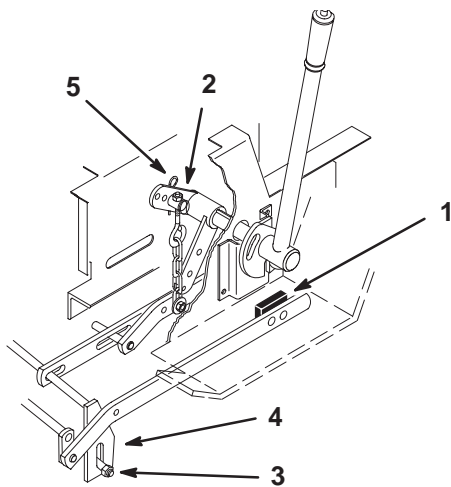

Figure 20
- If the bumpers do not contact footrests, adjust the lift chain by turning the nut on the eyebolt in the rear hole of tractor lift (Fig. 20). Turn the nut clockwise to raise the mower or counterclockwise to lower it.